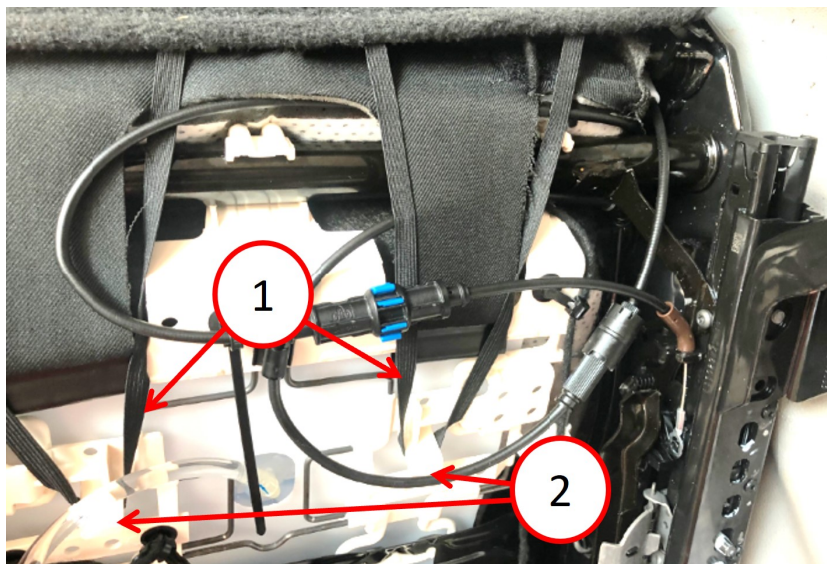

Fig. 3
4. Remove the two bungees from the suspension mat hooks (Fig. 3) .
5. From the rear/bottom of the cushion, remove the two cushion trim j-retainers from the cushion suspension (Fig. 3) .
16. Connect the two bungees from the suspension mat hooks (Fig. 3) .
18. Connect the two cushion trim j-retainers from the cushion suspension (Fig. 3) .